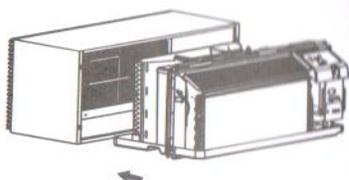
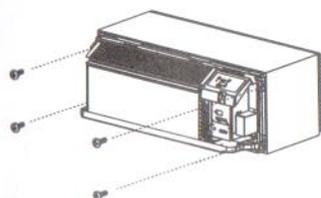

Fig. 8
Fig. 9
- Lift unit level and slide unit into wall sleeve until firmly against front of wall sleeve and secure with 4 long screws through the unit flange holes. (See Fig. 8 and Fig. 9)